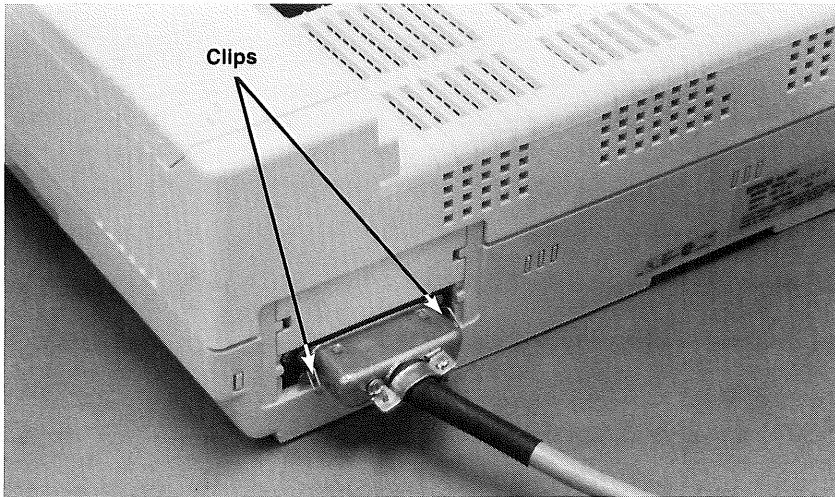

Figure 26.
41. Route the end of the printer cable under the paper to the connector on the right back side of the printer. Insert the connector and secure with the attached clips. See Figure 26.